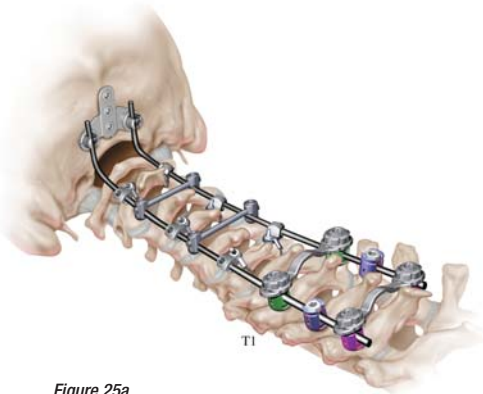

Figure 25a
- **J-Hook Cross Connector:** Measure the distance between the medial aspects of the two 3.5mm longitudinal rods. Cut a 3.5mm rod to a length between 9mm - 11mm longer than the measured distance between the rods. Assemble a J-Hook Connector on each end of the transverse rod and position the J-Hooks onto the longitudinal rods. Once the rod and connectors are positioned, the Inner Set Screws on both J-Hook Connectors can be tightened, clamping the connectors to the transverse and longitudinal rods. Final tightening with the Torque Limiting Driver should occur once all components are in a satisfactory position (Figure 25a & b).